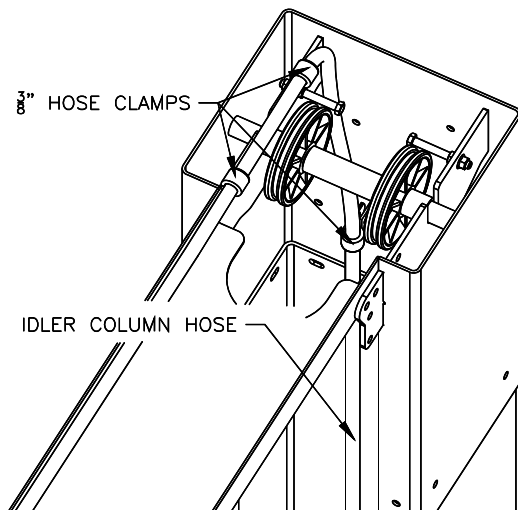
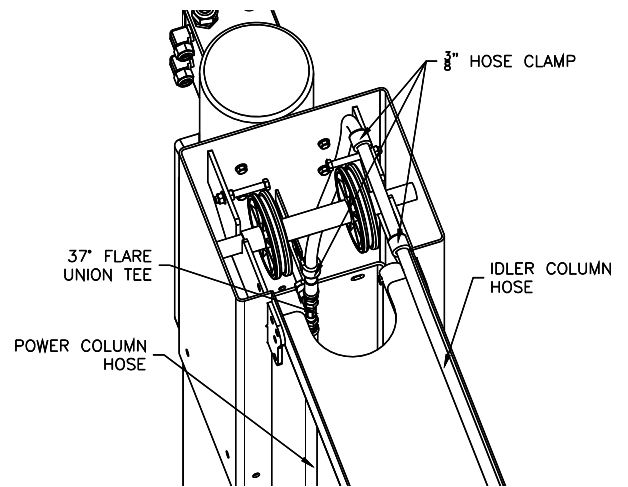
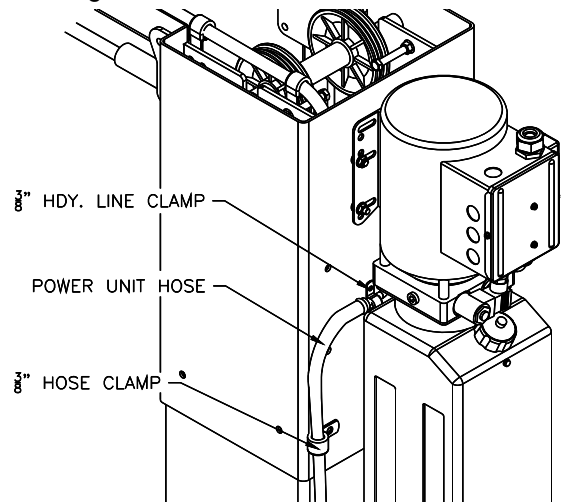

Fig 8a – Hose Routing, Idler Side Column Ext.
Fig 8b – Hose Routing,
Fig 9a – Power Unit Hose
21) Uncoil Idler side hose and route through the Idler Side column extension as shown in **Fig 8a**, taking care to avoid the synchronizing cables and hydraulic cylinder path. Remove slack and tighten all 3 clamps. Route hose across overhead avoiding the synchronizing cables and down through the Power Side column extension as seen in **Fig 8b**. Do Not Tighten Clamps at this time.
22) Loosely attach power column hose and idler column hose using the tee fitting (*in hardware box*) Attach Power Unit Hose to power side column extension as seen in **Fig 9a**. Connect Power unit hose to tee from **Fig 8b** and remove slack from power column hose. Tighten loose fittings and clamps from previous step. Serpentine any extra hose length in overhead.